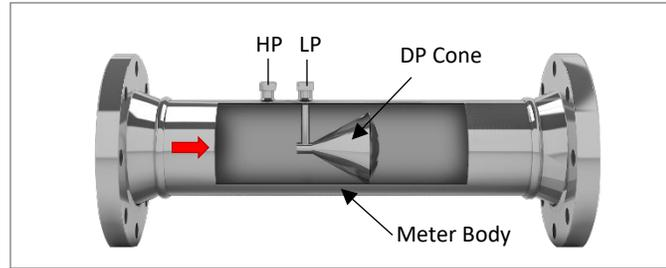
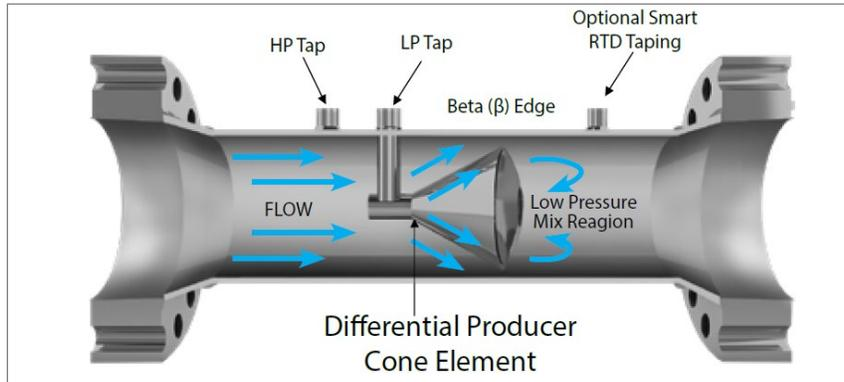

Fig 1: Basic components of the Tek-DP 1620A Cone Meter
Fig 2: TEK-DP 1620A DP Cone Meter (Cutaway View – Flow Streams)
The cone meter comprises three main components, as shown in Figure 1 & Figure 2.
For compressible fluids (gasses), line pressure and temperature measurements are required for accurate flow rate calculations such as custody transfer applications as well as compensation for any adiabatic changes in the meter expansion factor also detailed in ISO 5167 Part 5. During normal operation process fluids flow around the differential producer cone, and pressure drop occurs according to Bernoulli principles of conservation of energy. The static line pressure (P1) is measured via a wall tap strategically located upstream of the cone (Figure 2). Pressure is also measured via a sensing tap that is connected to the cone center using a conduit and measures pressure at a central point immediately downstream of the cone (P2). The fluid flow-rate is calculated using the differential pressure (DP).